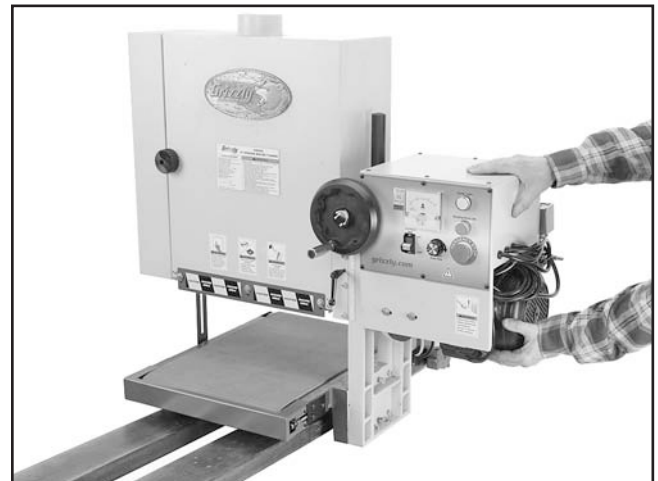

Figure 9. Forklift forks positioned under sanding assembly.
4. Unbolt the sander assembly from the pallet, then have your assistant steady the sander assembly as you place the forklift forks in a stable position under the conveyor, as shown in **Figure 9**.